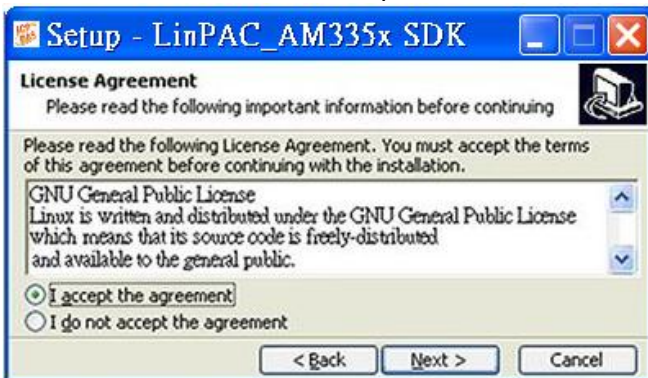

Fig. 3-9
3. Click the “I accept the agreement” option and then click the “Next” button, refer to Fig. 3-9.